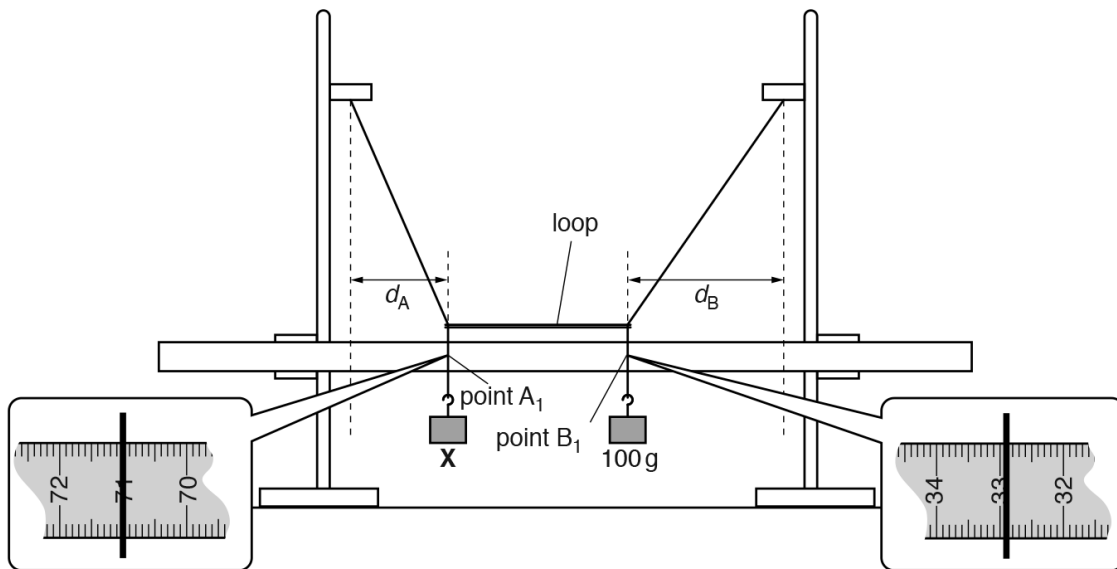

Fig. 1.2
- (b) A loop of string is placed around the vertical strings so that they are pulled closer together, as shown in Fig. 1.2. The loop is horizontal and is just above the rule.
- (i) Record the scale reading a_1 at point A_1 as indicated in the enlarged section of Fig. 1.2.
- (iii) Calculate and record the distance d_A , shown in Fig. 1.2. Use your results from (a)(i) and (b)(i). d_A is the difference between a_0 and a_1 .